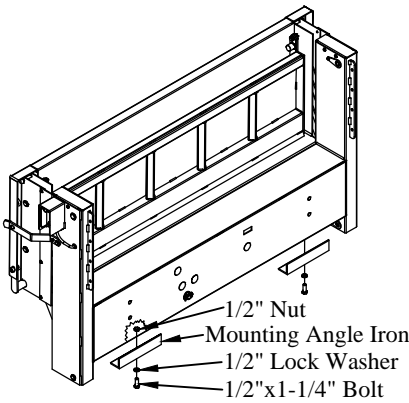

Figure 12: Mounting angle iron location.
1. **Install** the two (2) mounting angle irons to the bottom of the liftgate (Figure 12).